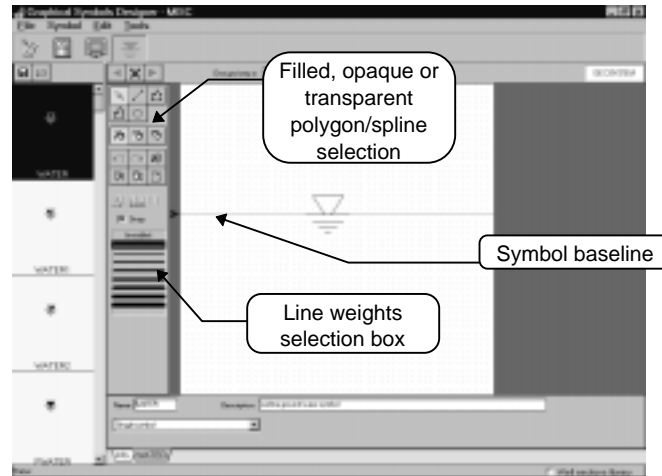

Figure 9.7 -- Symbol Editing Screen
2. Lines have weights associated with them: LD4 provides eight different weights, along with an invisible line weight. Before drawing the line, make sure that the proper line weight is highlighted in the line weight selection box (see Figure 9.7).
2. The border of the polygon has a weight: before drawing the polygon, make sure that the proper weight is highlighted in the line weight selection box (see Figure 9.7). (The border of a filled polygon doesn't show through the fill so you can skip this step if the polygon that you'll be drawing will be filled.)
3. If you will be drawing a closed polygon, click either the filled, opaque or transparent button. (Again, refer to Figure 9.7.)
2. Click the new line weight or on either the filled, opaque or transparent buttons in the toolbar shown in Figure 9.7.
2. The border of the circle has a weight: before drawing the circle, make sure that the proper weight is highlighted in the line weight selection box (see Figure 9.7). (The border of a filled circle doesn't show through the fill so you can skip this step if the circle that you'll be drawing will be filled.)
3. Click either the filled, opaque or transparent button. (Again, refer to Figure 9.7.)